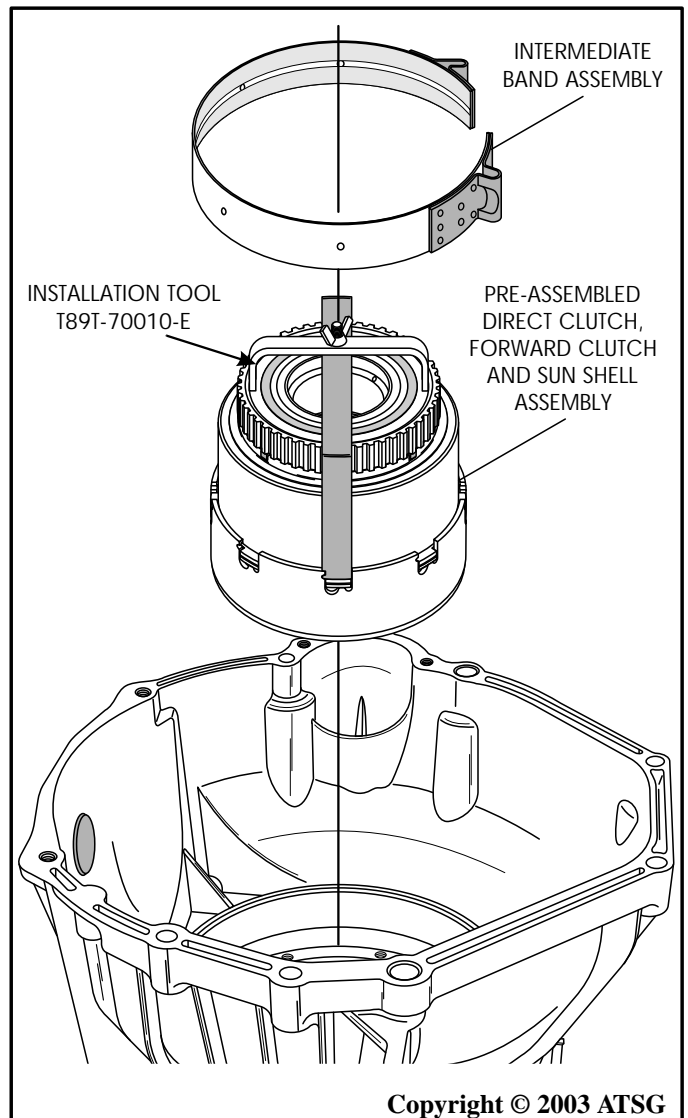

Figure 175
4. Install the pre-assembled direct clutch, forward clutch and sun shell assembly using installation tool, as shown in Figure 175, by rotating into position until fully seated.
6. Install intermediate band assembly, as shown in Figure 175, and ensure engagement on the case band anchor. You may want to install the intermediate servo piston at this time to help hold the band in position.